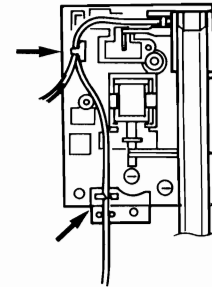

Figure 14
4. Attach the tone arm, put on the washer (48), and fasten with the hexagonal nut (47). Pass the leads of the tone arm through the guide parts as shown in Figure 14.